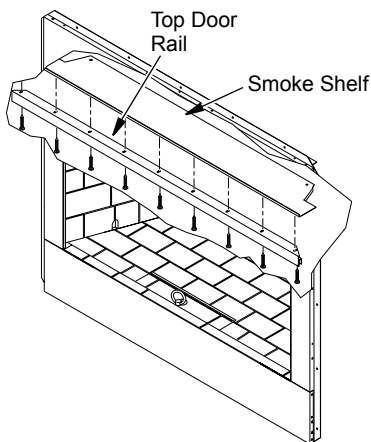

Figure 20 - Installing Top Door Frame
1. Remove screws from smoke shelf (see Figure 20).